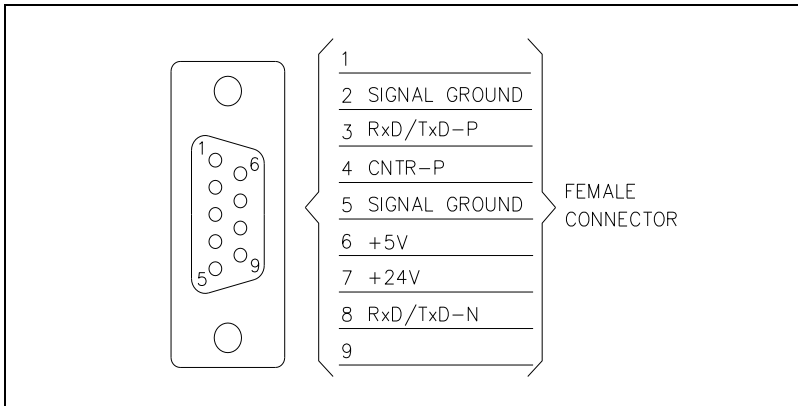

Figure 44 Profibus connector
- 5 Connection example: (see Fig. 44)